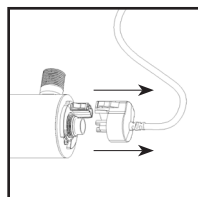
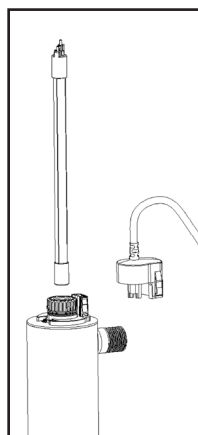

FIGURE 2B
FIGURE 2C
- ⚠** 2. Disconnect main power source and allow the unit to power down for 30 sec. Remove the lamp connector by squeezing the plastic locking tabs on the side of the connector. Remove connector and lamp from the reactor chamber. and lamp connector base. Separate the lamp from the connector (Figure 2B). Do not twist the lamp from the connector, simply slide the two apart. Avoid touching the lamp on the glass portion. Handling the lamp at the ceramic ends is acceptable, however if you must touch the lamp glass, please use gloves or a soft cloth. Fully remove the lamp from the reactor chamber being careful not to angle the lamp as it is removed from the chamber. If the lamp is removed on an angle, pressure will be applied on the inside of the quartz sleeve, causing the sleeve to fracture.
- ⚠** 3. To install a new lamp, first remove the lamp from its protective packaging, again being careful not to touch the lamp glass itself. Carefully insert the lamp into the reactor vessel (actually inside the quartz sleeve) (Figure 2C). Insert the lamp fully into the chamber leaving about two inches of the lamp protruding from the chamber. Next, attach the connector to the UV lamp (Figure 2B). The connector is “keyed” and will only allow correct installation in one position. Ensure the connector is fully seated onto the UV lamp (Figure 2D).